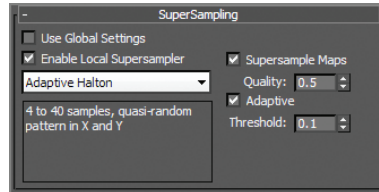

FIGURE 15.18
2. Check Enable Local Supersampler and keep it set to Max 2.5 Star. Leave the parameters at their defaults, as shown in Figure 15.18. Render the camera.